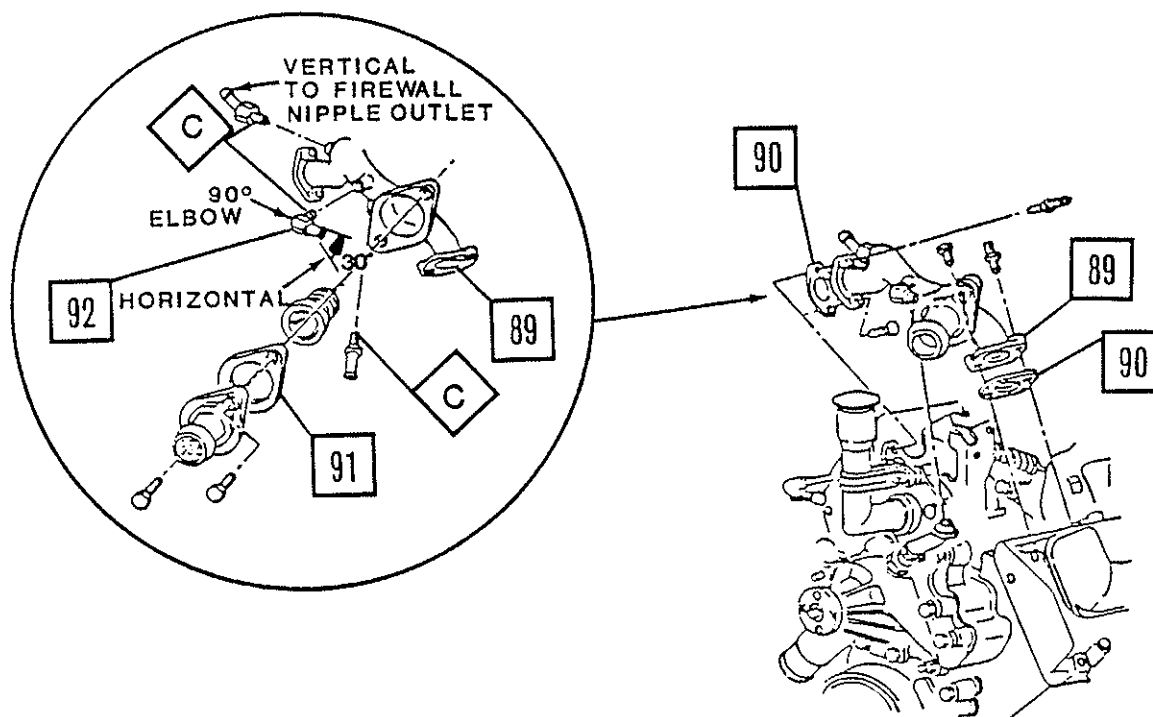

Figure 23.
138. Remove stud and bolt from crossover to right cylinder head (Figure 23.).
141. Using fittings, thermostat, housing and bolts from old crossover pipe, install new gasket and 90° fitting to new coolant crossover pipe. Tighten thermostat housing bolts to 25-35 lb.-ft. (34.0-50.0 Nm) (Figure 23.).
- 143. Install new crossover engine coolant pipe on engine with new gaskets (Figure 23.).
- 144. Install stud, bolt, ground wire and nut to left cylinder head. Torque to 25-35 lb.-ft. (34.0-50.0 Nm) (Figure 23.).